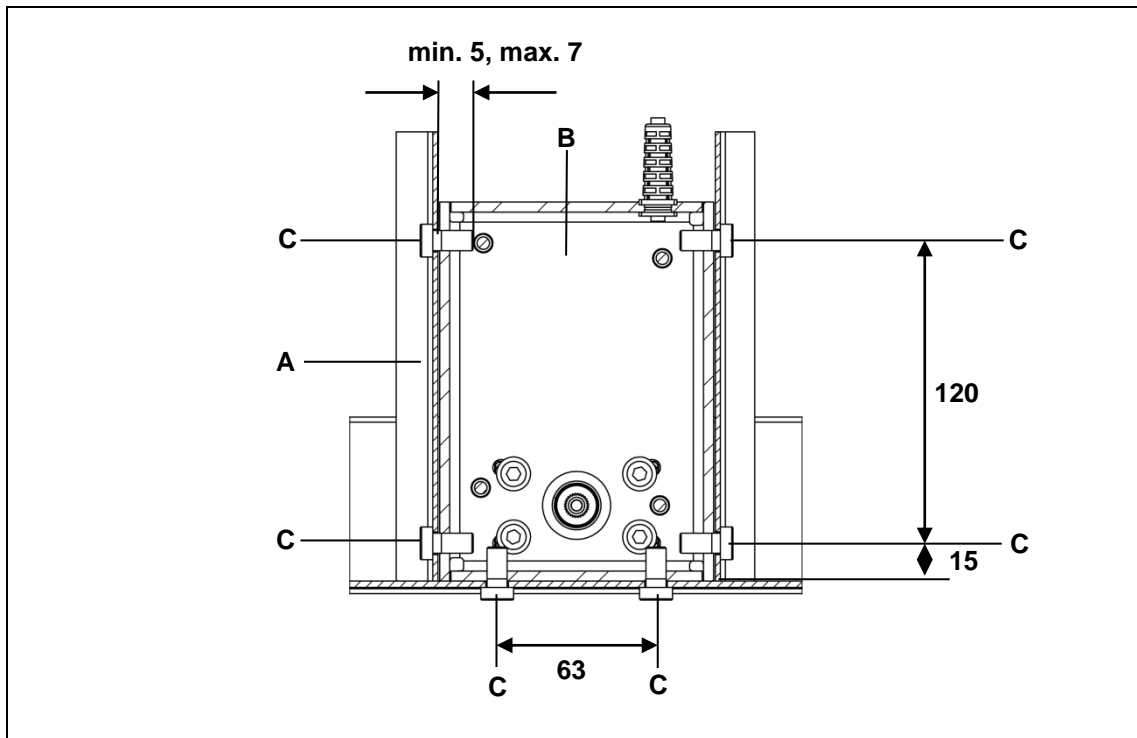
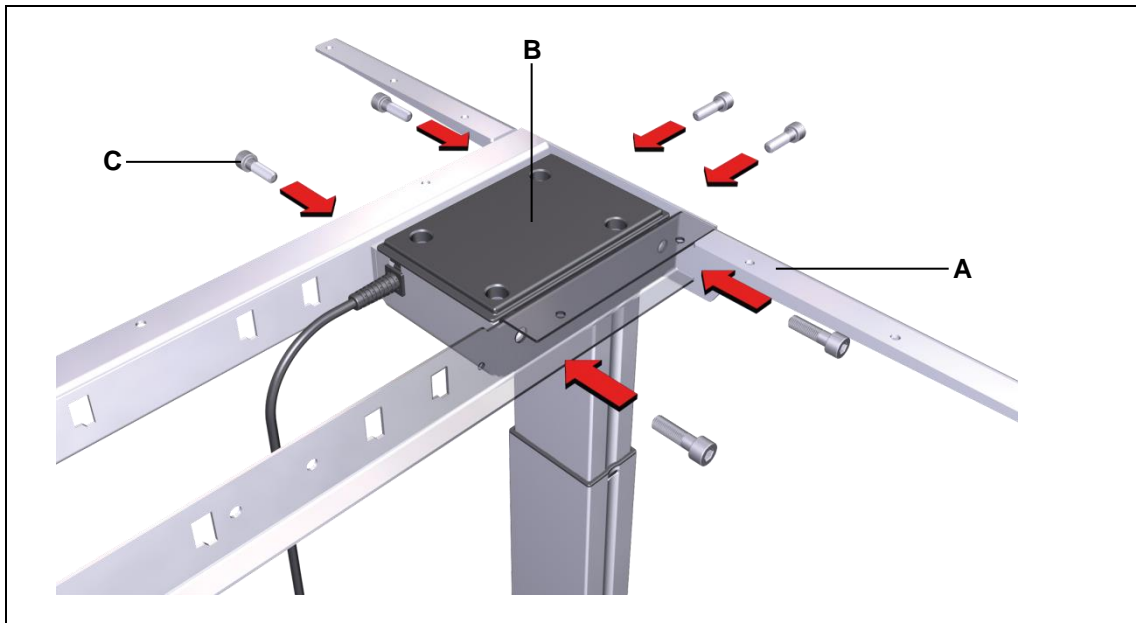

Figure 9 Mounting the desk frame (dimensions in mm)
Figure 10 Mounting desk frame
- Use M8 screws (grade 8.8), as shown in Figure 9. The tightening torque must not exceed 20 Nm.
- 1 Set the desk frame so that the holes are over the lifting column. Use six screws to attach the desk frame to the motor housing of the lifting column, as shown in Figure 10 (maximum tightening torque is 20 Nm). The mounting dimensions are shown in Figure 9.